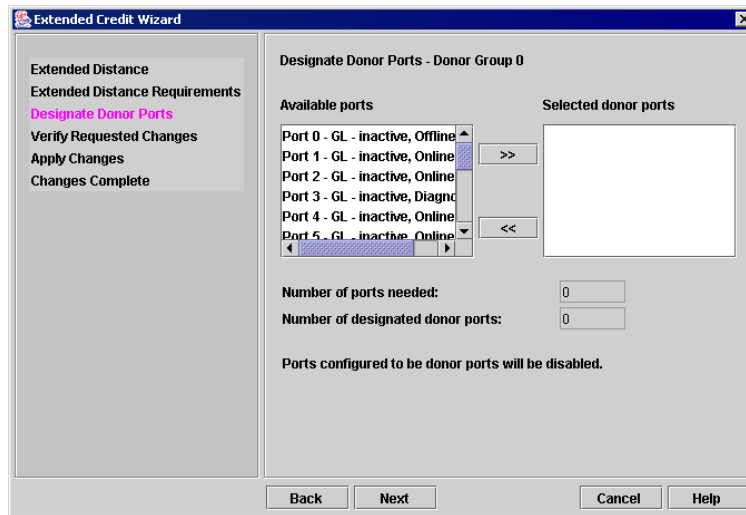

Figure 5-3. Designate Donor Ports
3. Designate Donor Ports: Select available ports and click **>>** to move the port into the Selected Donor Port column shown in Figure 5-3. Match the number of ports needed with the number of designated donor ports. Click the **Next** button.